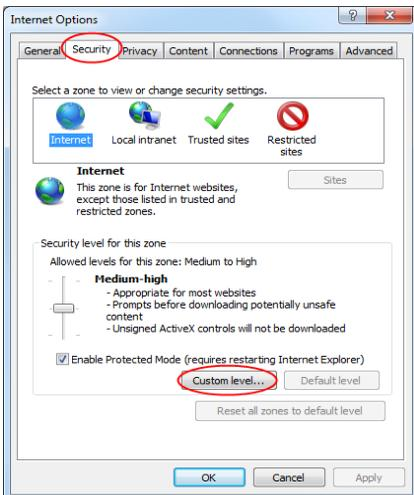

Fig 8-1
- ② Select Security→Custom Level. Refer to Fig 8-1.